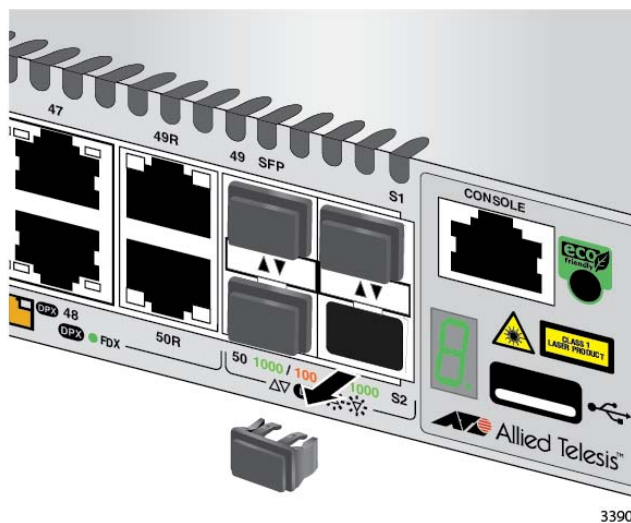

Figure 40. Removing the Dust Plug from the S2 Slot
5. Remove the dust cover from the S2 slot in the next switch in the stack as shown in Figure 40.